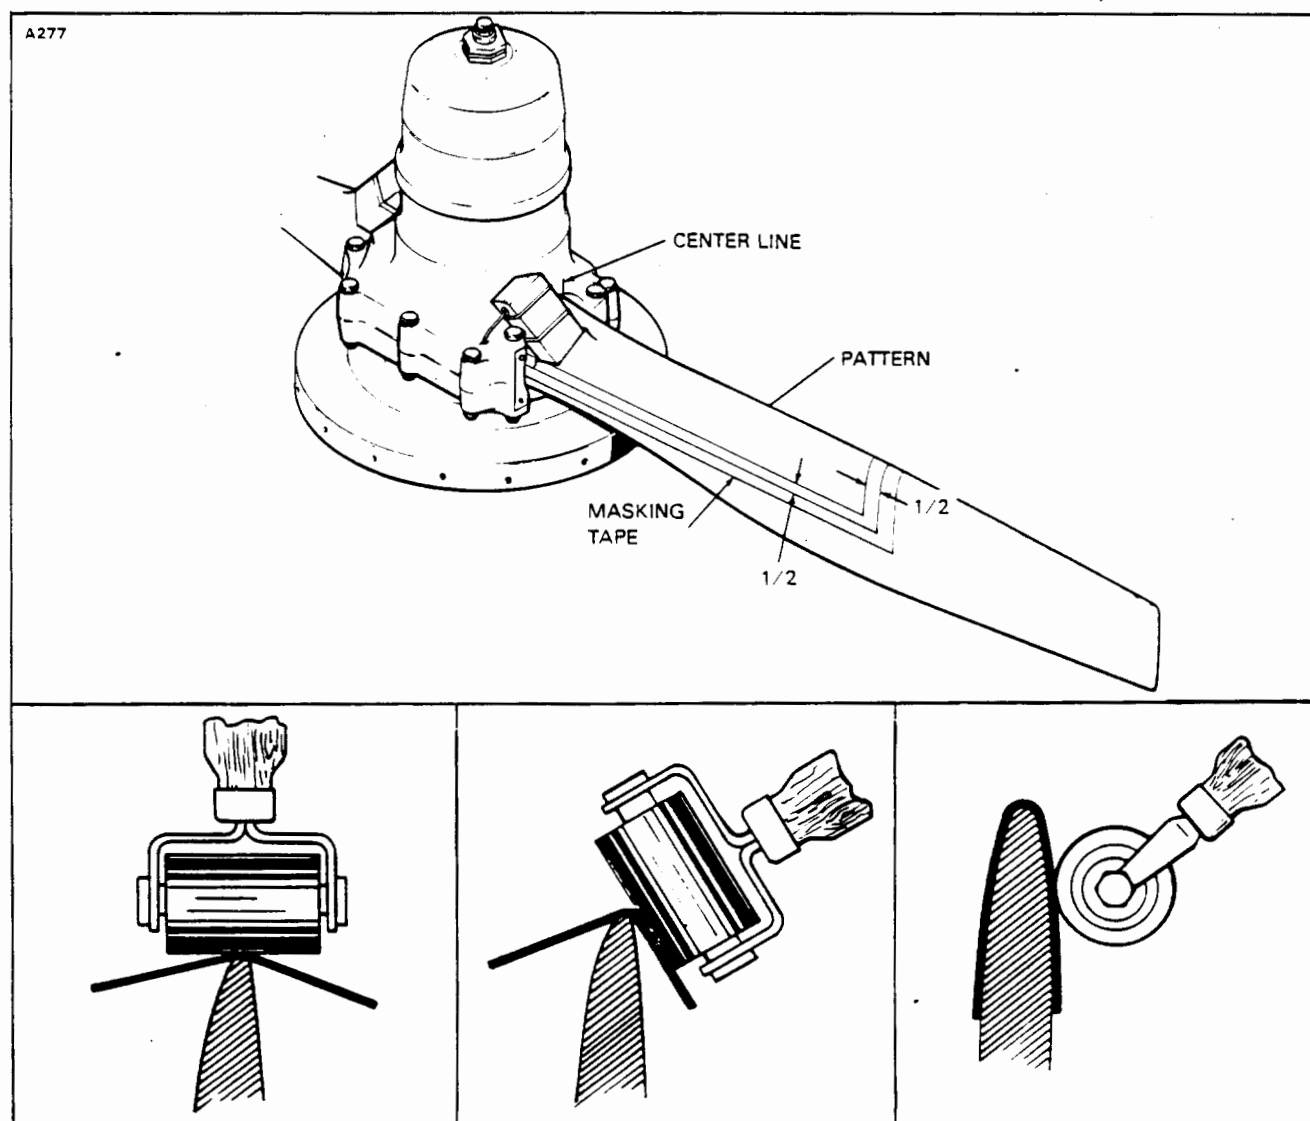

Figure 30-10. Installation of Deicer Boots
1. Mark and cut from masking tape a pattern the size of the propeller deicer. (Refer to Figure 30-10.)
6. When the deicer is correctly positioned, roll firmly along the centerline with a rubber roller. (Refer to Figure 30-10.)